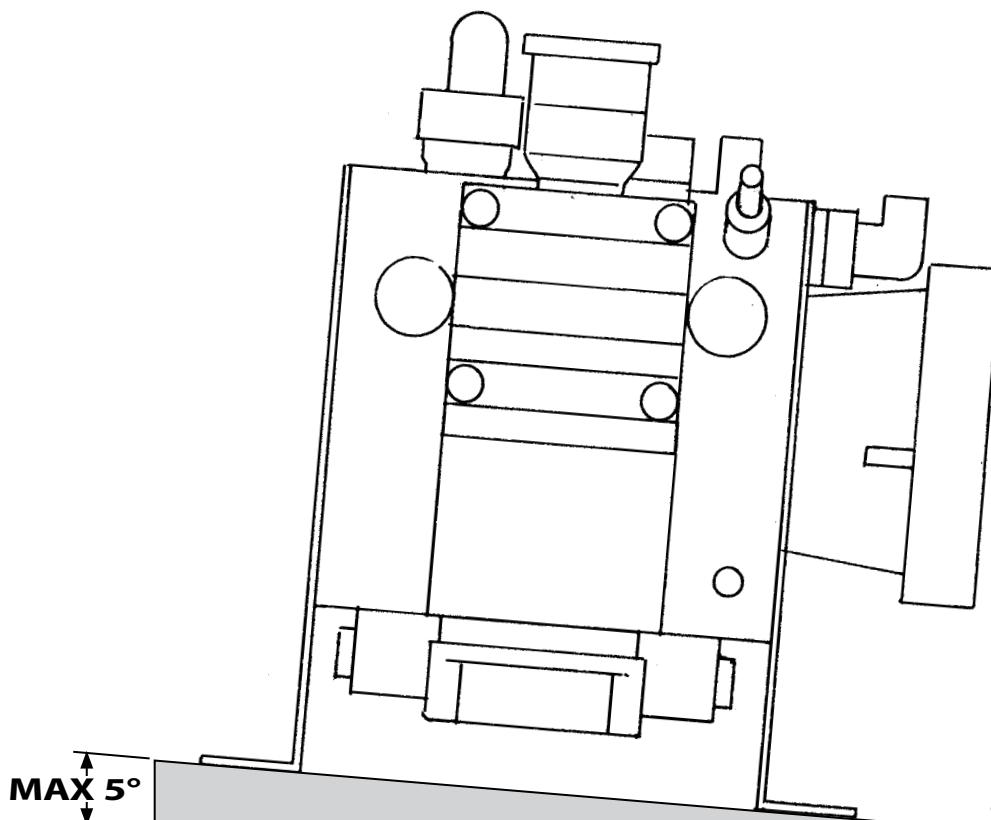

Fig. 1
- The figure indicates that the maximum inclination permitted of the pump to ensure proper lubrication of the crank is **5° maximum (Fig. 1)**.